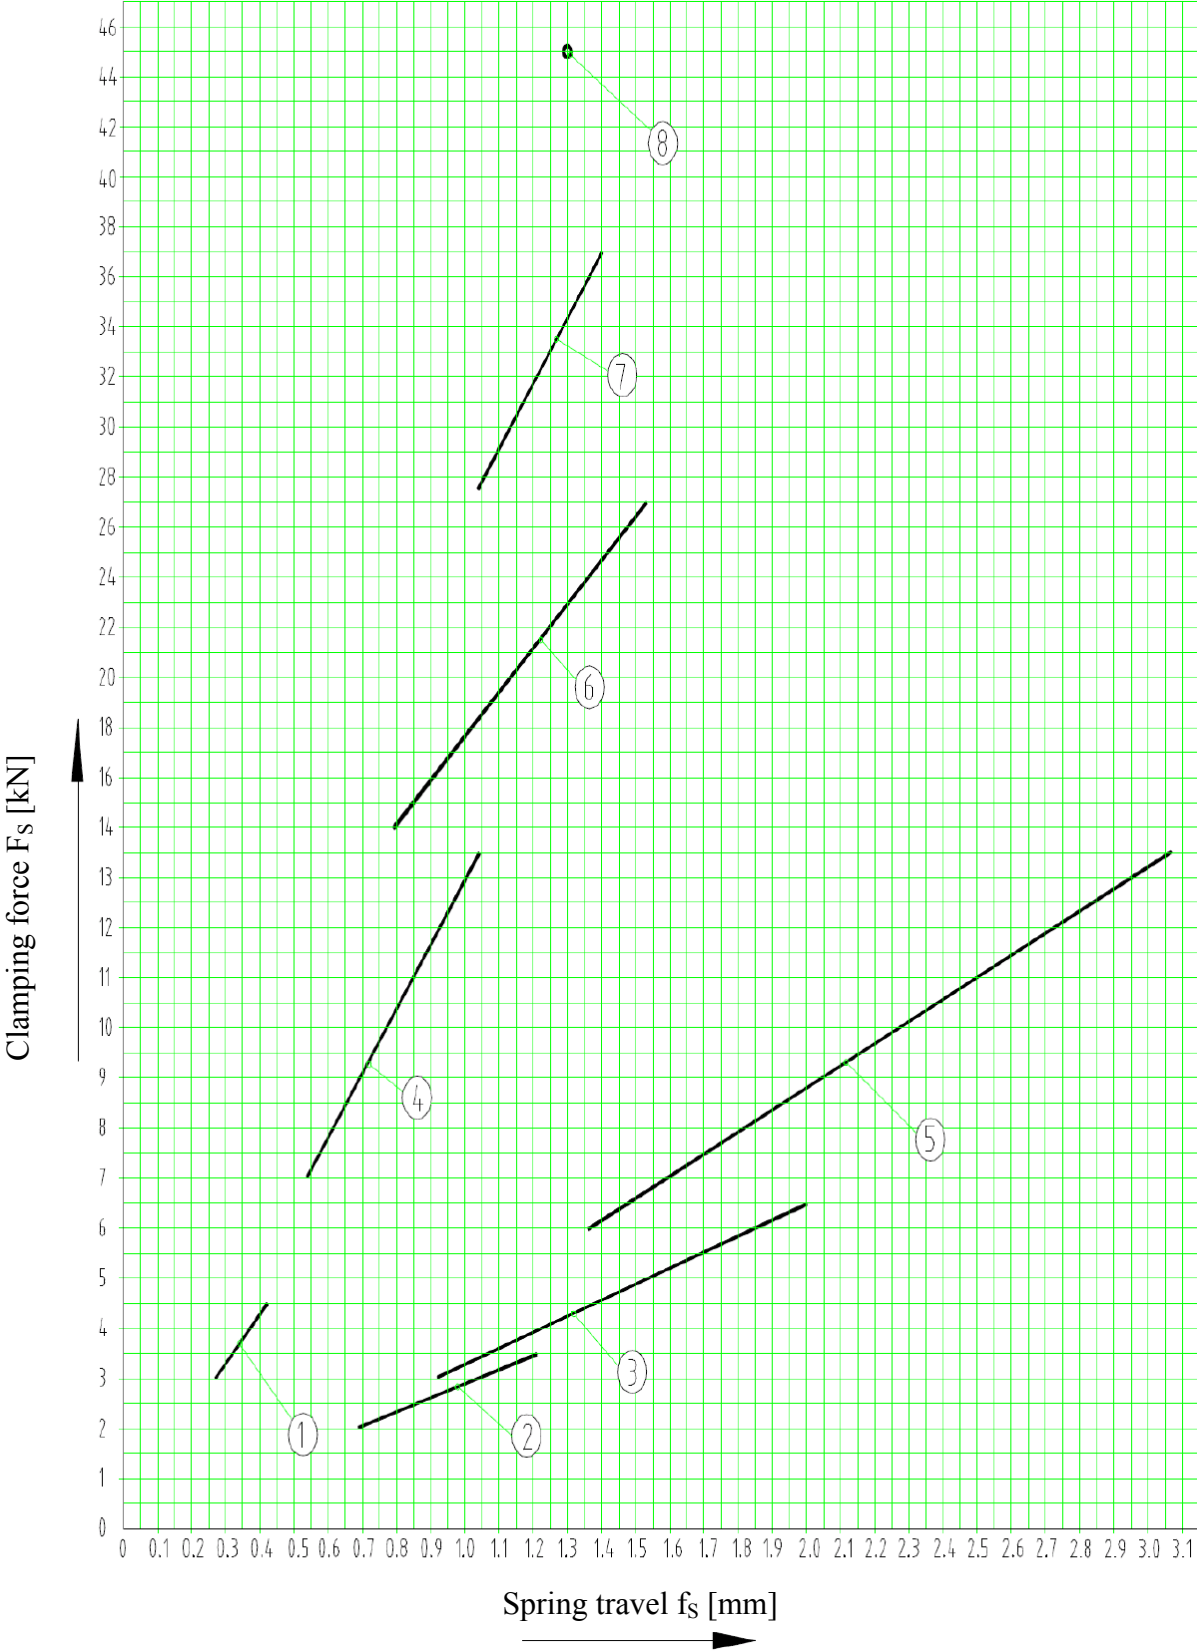
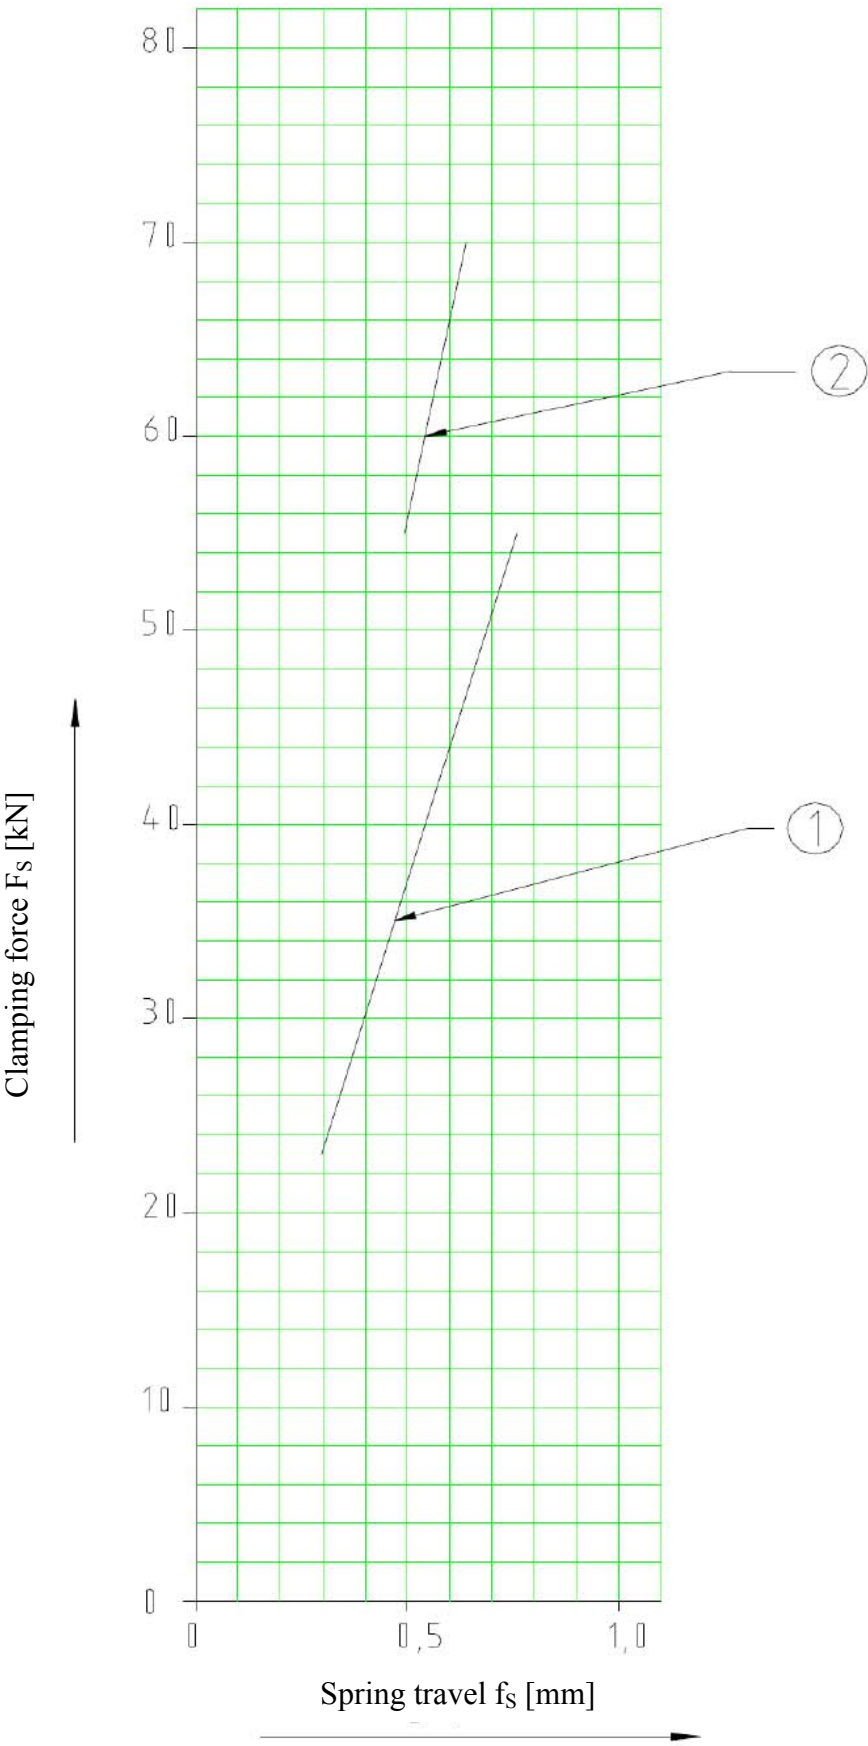

Figure 6: Determining the clamping force depending on the spring packet
Figure 7: Determining the clamping force depending on the spring packet (special case KE01 and KE02)
- Adjust clamping force according to the datasheet of the related semiconductor component with the aid of Figure 6 **Fehler! Verweisquelle konnte nicht gefunden werden.** and Figure 7.